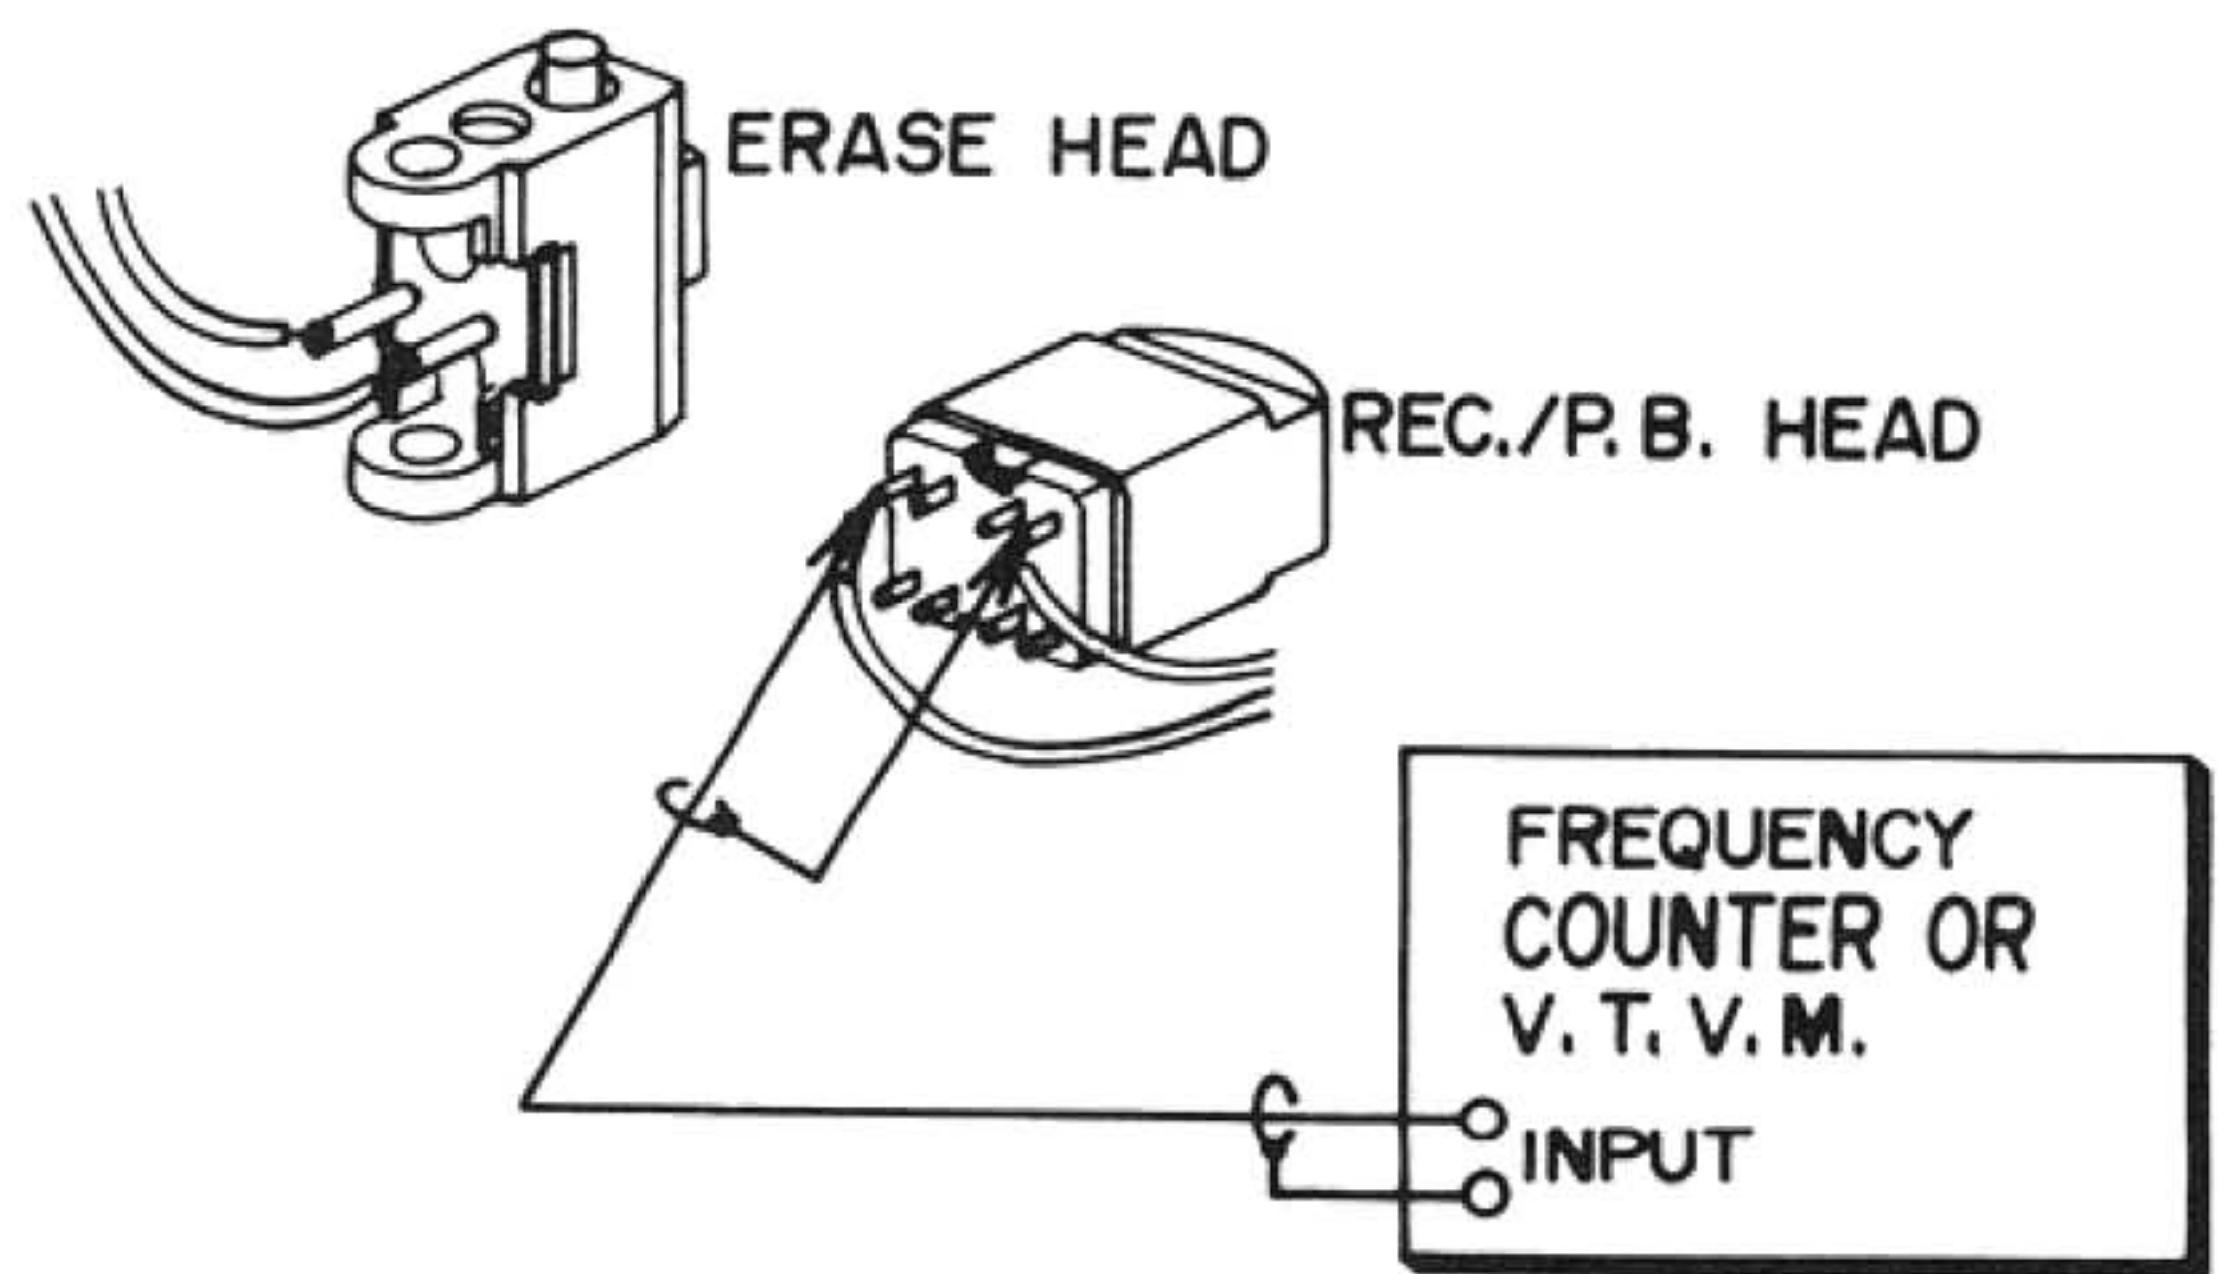
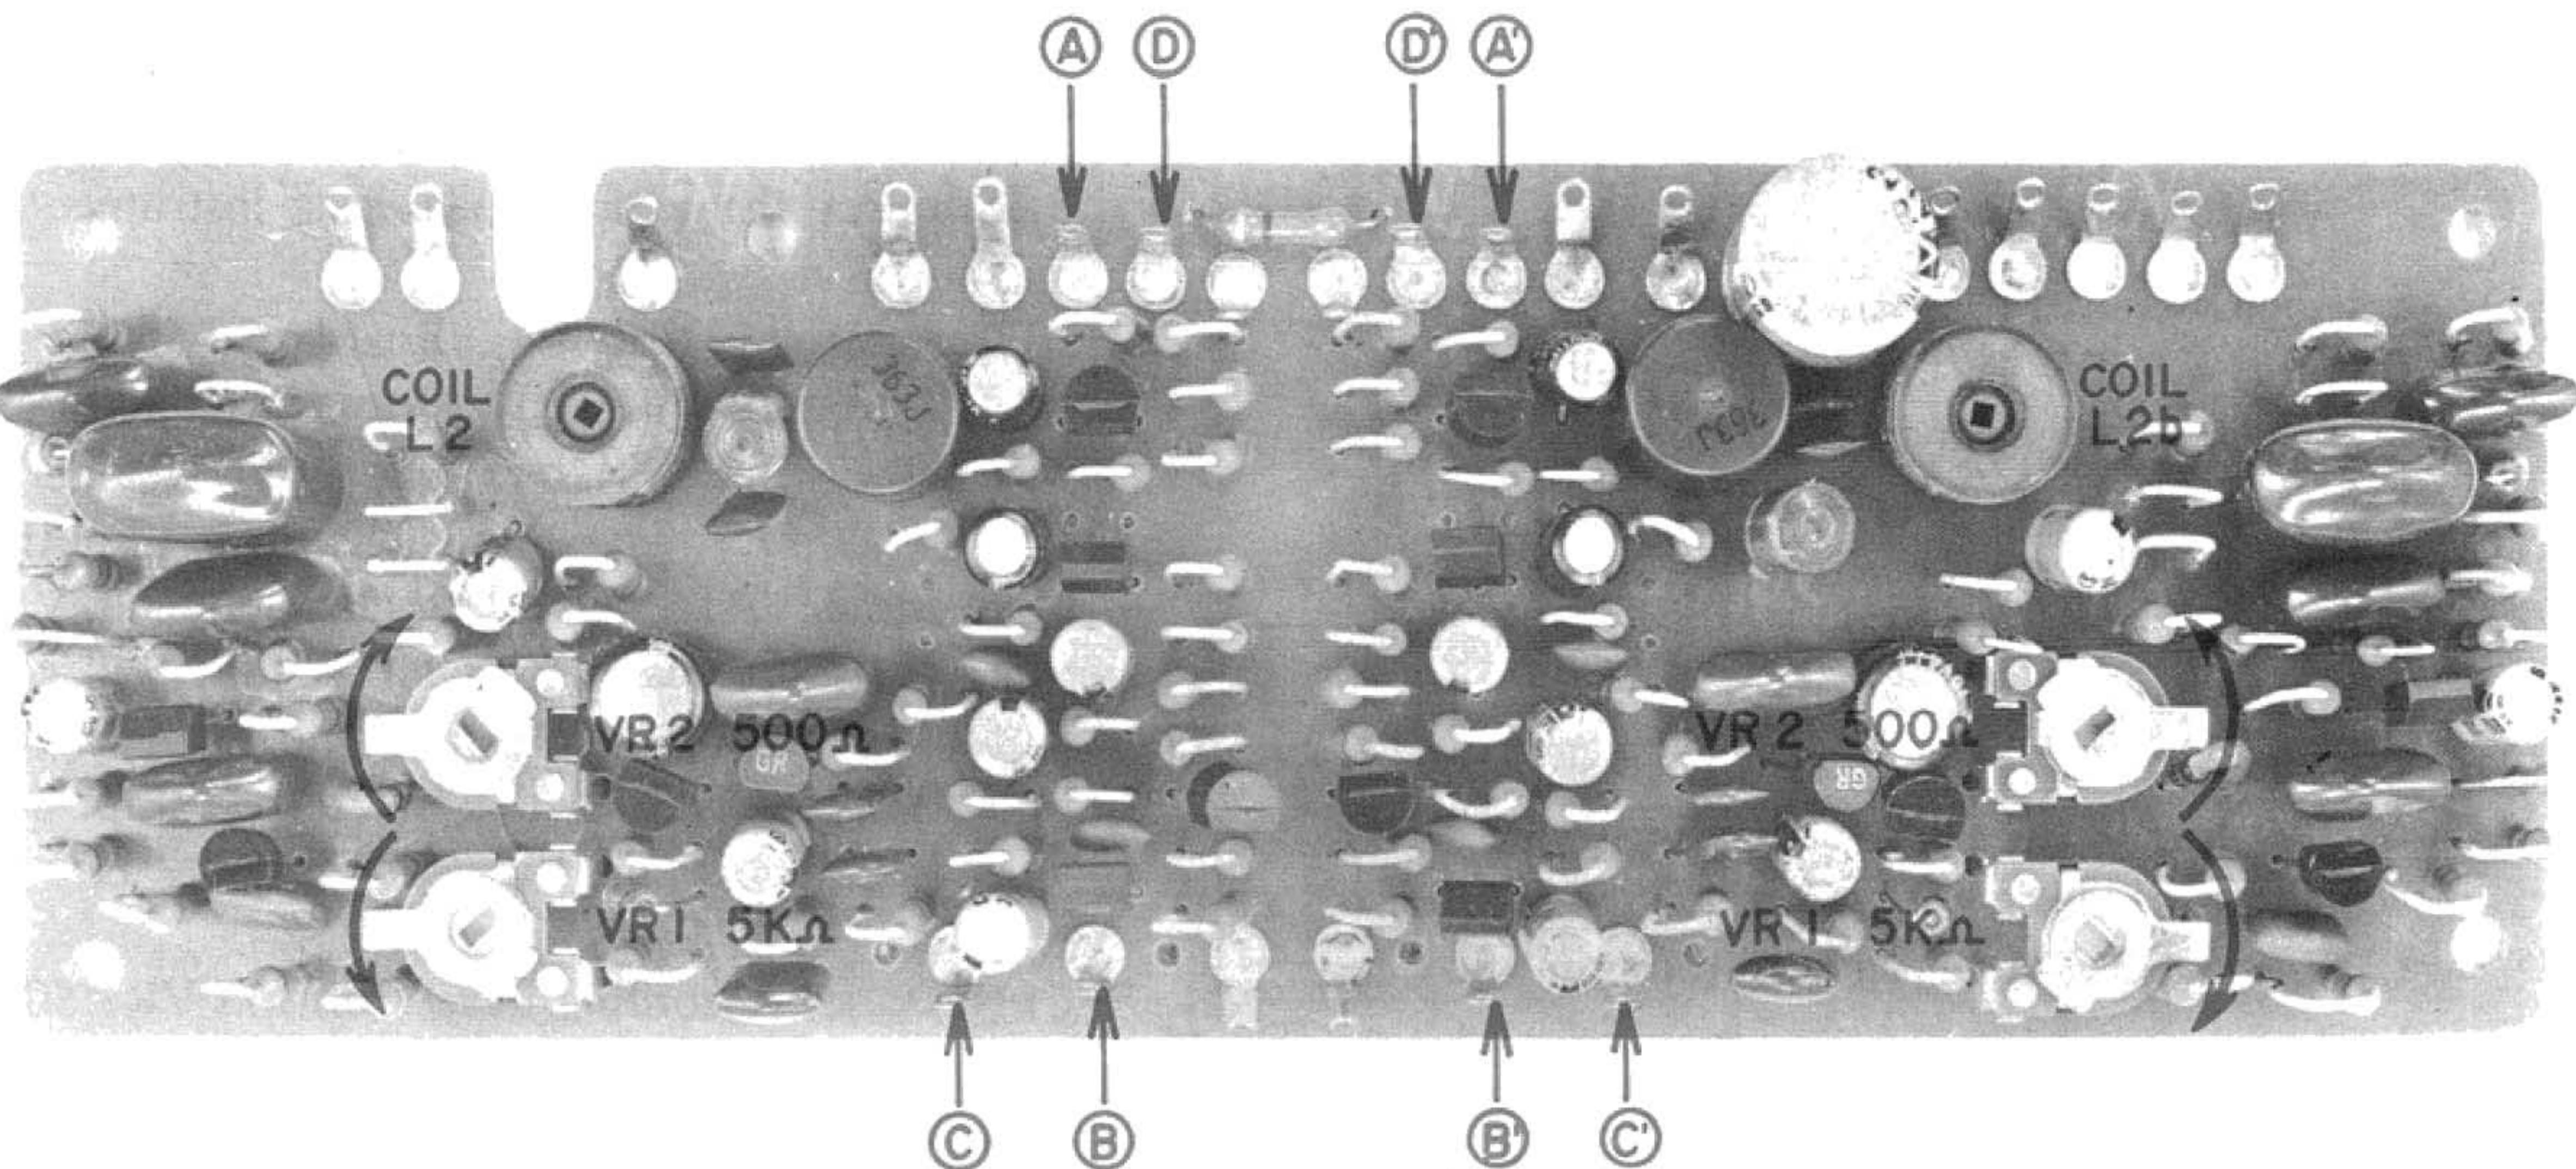

Fig. 24
Fig. 25 Dolby N.R. P.C. Board CP-5003 (Face Side)
- (1) (Refer to FREQUENCY RESPONSE under MEASURING METHOD, section III) Record 1 kHz and 10 kHz sine waves signal at -20 dB. Playback the tape and adjust semi-fixed resistors VR1 500 kB (left channel) and VR2 500 kB (right channel) of Syscon & OSC. P.C. Board (CP-2002) so that the output level of these two frequencies are equal.
- (2) Re-confirm recording level following frequency response adjustment.
5. RECORDING BIAS FREQUENCY CHECK (Refer to Fig. 24)
- (1) Set the GXC-75D to recording mode.
- (2) As shown in Fig. 24, connect a Frequency Counter to the coil terminals of the recording/playback head and read indication.
- (3) There is no way to adjust the recording bias frequency, but the correct frequency is 61±3 kHz.
6. RECORDING BIAS VOLTAGE AND ERASE VOLTAGE CHECK (Refer to Fig. 24)
- (2) Connect a V.T.V.M. between the coil terminals of the recording/playback head as shown in Fig. 24 and read indication. Recording bias voltage should be about 3V A.C. with low noise tape and about 4V A.C. with chromium dioxide tape.
- (3) Connect a V.T.V.M. between the coil terminals of the erase head and read indication. Erase voltage should be 27V A.C. with low noise tape and 35V A.C. with chromium dioxide tape.
7. DOLBY N.R. SYSTEM CIRCUIT ADJUSTMENT (Refer to Figs. 25 and 26)
- b) Turn Dolby N.R. P.C. Board (CP-5003) gain adjustment semi-fixed resistors VR2 500B (left channel) and VR2b 500B (right channel) as well as FET gate bias adjustment semi-fixed resistors VR1 5 kB (left channel) and VR1b 5 kB (right channel) as far as they will go in the direction of the arrows shown in Fig. 25.
- c) Turn Dolby N.R. Switch SW20 to OFF position and, as shown in Fig. 24, ground "TP" test point (FET Gate).
- g) At this condition, further adjust the Attenuator so that the line output level at point ④ in Fig. 25 is -28.5 dB. (This adjustment must be exactly -28.5 dB) and confirm that the level at point ⑤ is -28.5 ± 0.5 dB.
- h) Next, turn Dolby N.R. Switch SW20 to ON position. Adjust Dolby N.R. P.C. Board gain adjustment semi-fixed resistors VR2 500B (left channel) and VR2b 500B (right channel) until the voltage at point ⑥ in Fig. 25 is increased by 10 dB.
- i) Disconnect GND (ground) from FET gate. Adjust FET gate bias volumes VR1 5 kB (left channel) and VR1b 5 kB (right channel) until the voltage at point ⑦ is reduced by 2 dB.